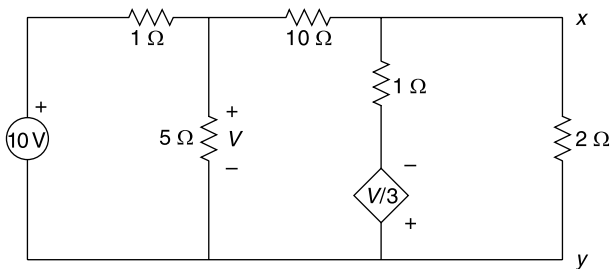

Fig. 14.56
14.69 In Fig. 14.56, find the current through the $2\ \Omega$ resistor and obtain power loss. Use Norton's theorem.